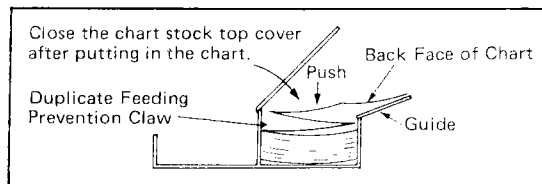

Figure 5-8. Loading Chart in the Stock.
- (4) Observe the chart scale marks (0% and 100%), and note that the chart should be loaded so that its back faces upwards (Figure 5-8).
- (6) The inside of the stock is slightly narrower than the chart (width between two perforated lines), so the chart must be pushed into the stock so that it is under the duplicate feeding prevention claw as shown in Figure 5-8.